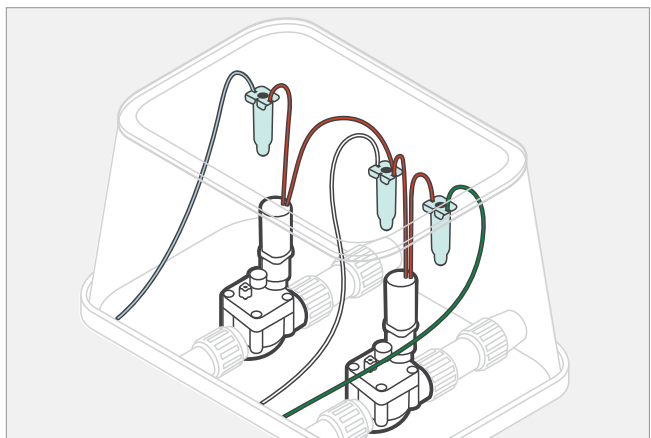

Figure 1
4. Connect the wires to the valves with waterproof connectors (*Figure 1*). You will need one wire for each valve, plus one common wire that will be connected to one of the wires on all of the valves.